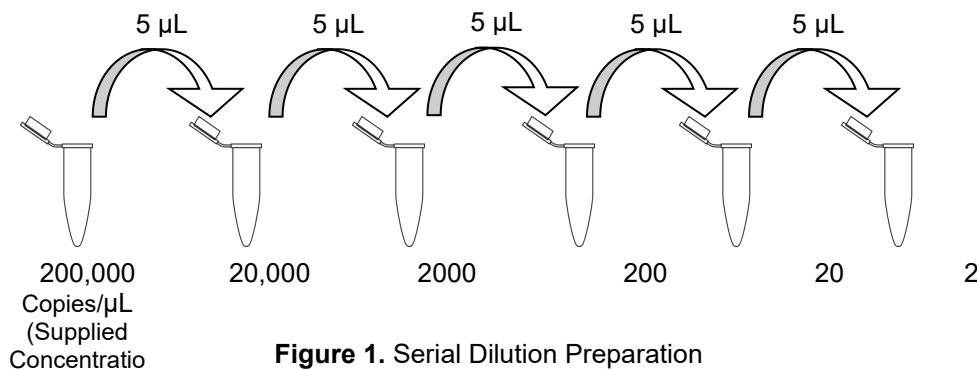

Figure 1. Serial Dilution Preparation
- Use 5 μL of the Positive Control Standard supplied with the kit (200,000 copies/ μL) to prepare 5 serial dilutions as outlined in Figure 1.